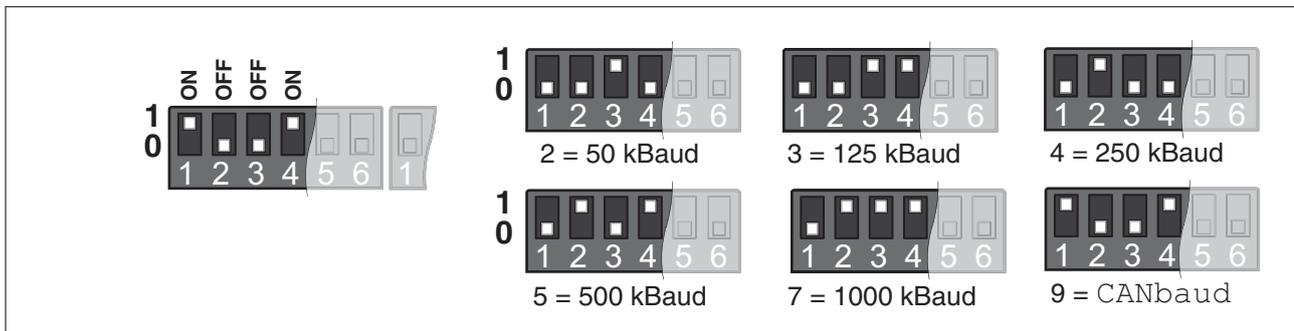

Figure 75: DIP switch baud rate
- ▶ Set the transmission rate via the DIP switches, see Figure 75.